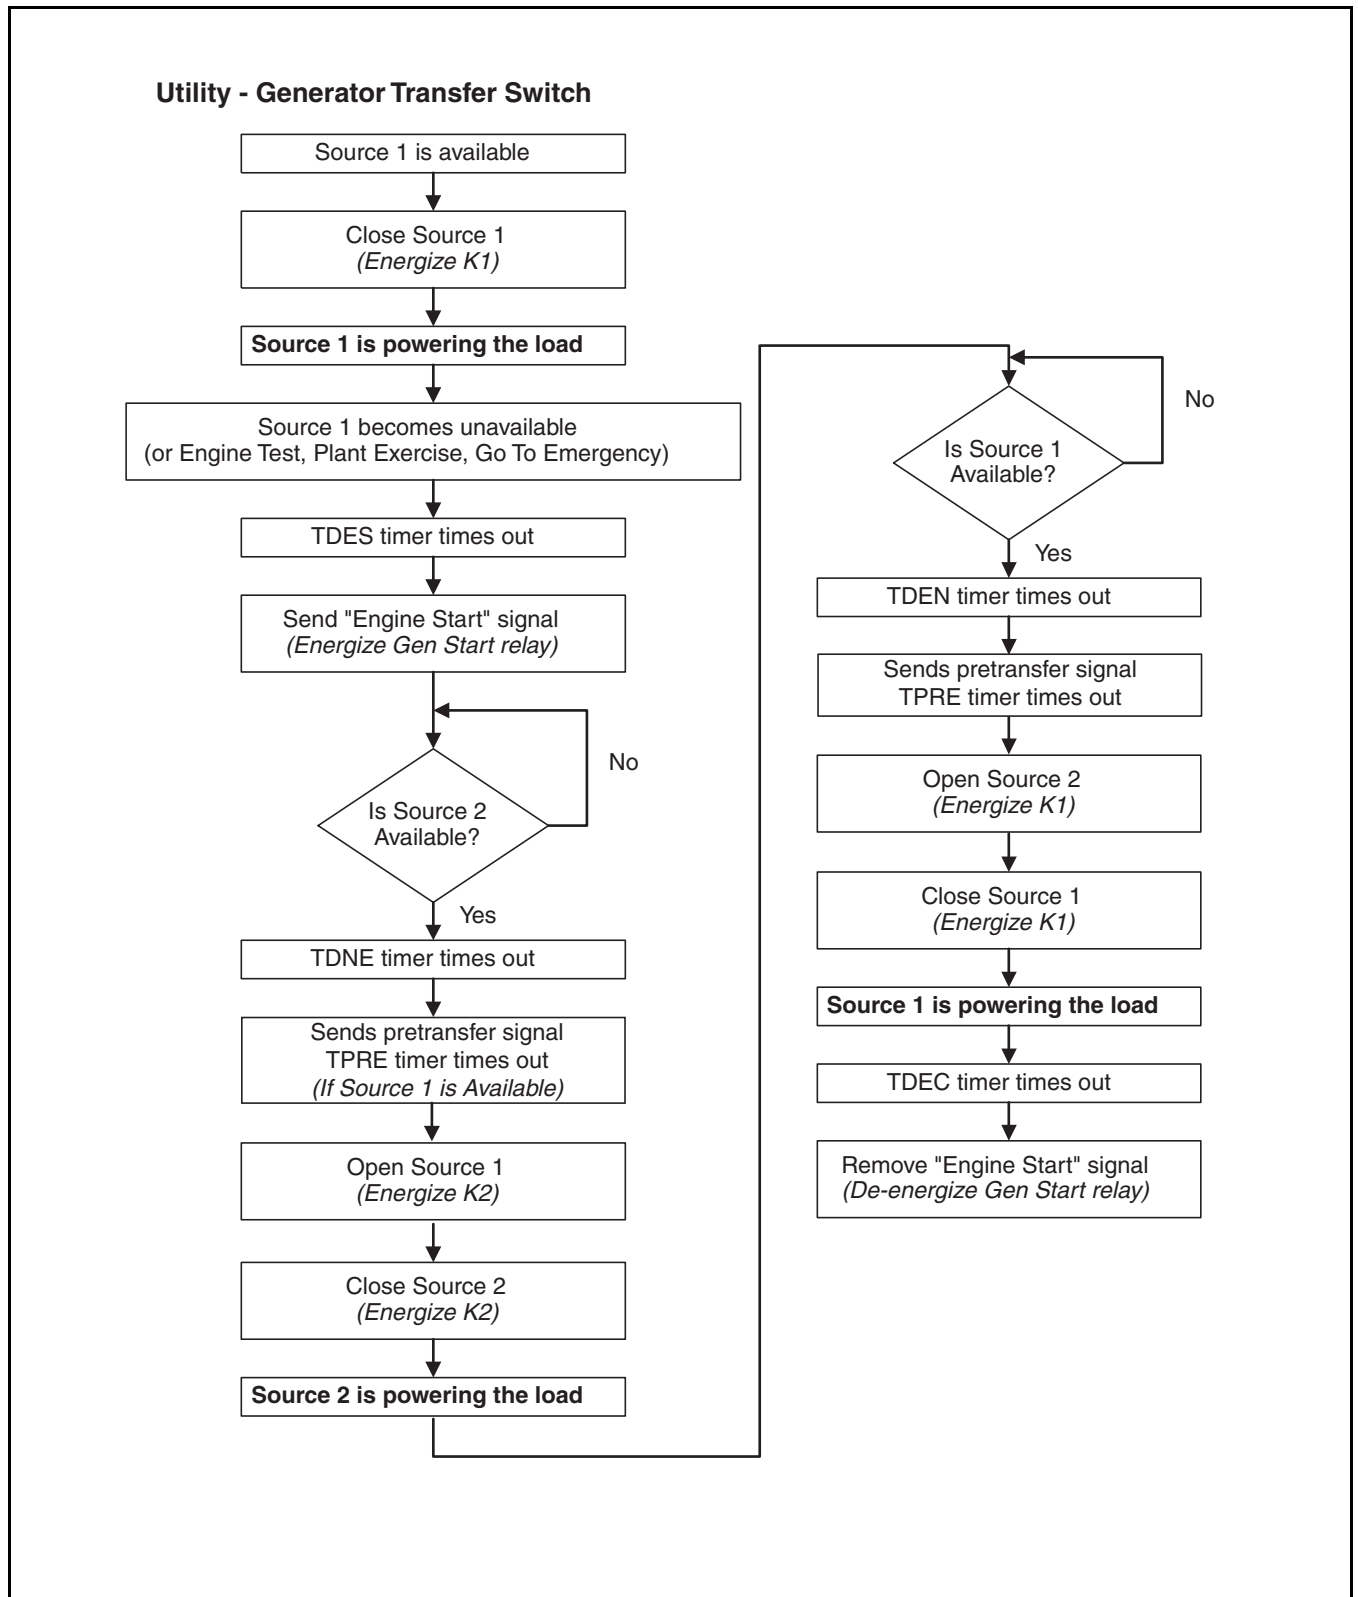

Figure 49. Utility - Generator Transfer Switch.
- Step 4:** Connect the Engine Generator Start wires to terminals 13 and 14 on the J-5 connector on the ATC-300 Controller (Figure 49). This contact is CLOSED whenever the engine generator is needed, and should be connected to a generator controller. **NEVER** connect directly to a starter solenoid or ignition system. See the Genset manufacturer instruction leaflet for recommended wire sizes and location procedures.